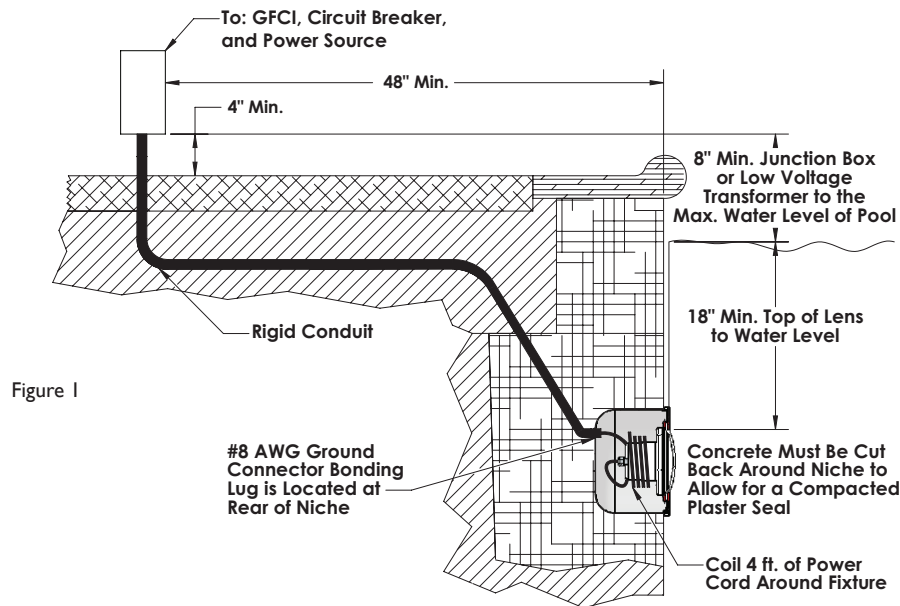

Figure 1
8. Connect these three (3) wires to their corresponding junction box circuit wires and secure the junction box cover in place.
9. Be sure to leave at least four (4) feet of cord at base of the fixture to coil around the light to ensure ease of servicing; reference Figure 1.
11. Using the stainless steel pilot screw provided, install the Halco ProLED® Color-Changing light fixture assembly into the niche, carefully tightening the pilot screw. (Reference Figure 1)